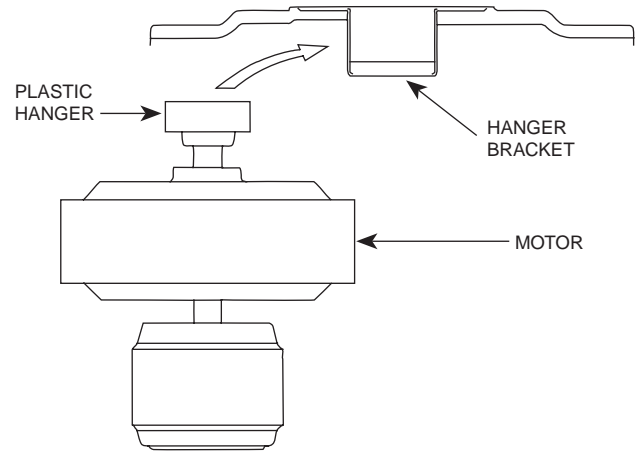

FIGURE 5
**A.** Lift the motor and insert the plastic hanger into the opening in the front of the hanger bracket. See Figure 5. Make sure none of the wires are trapped between the plastic hanger and the inside of the hanger bracket.